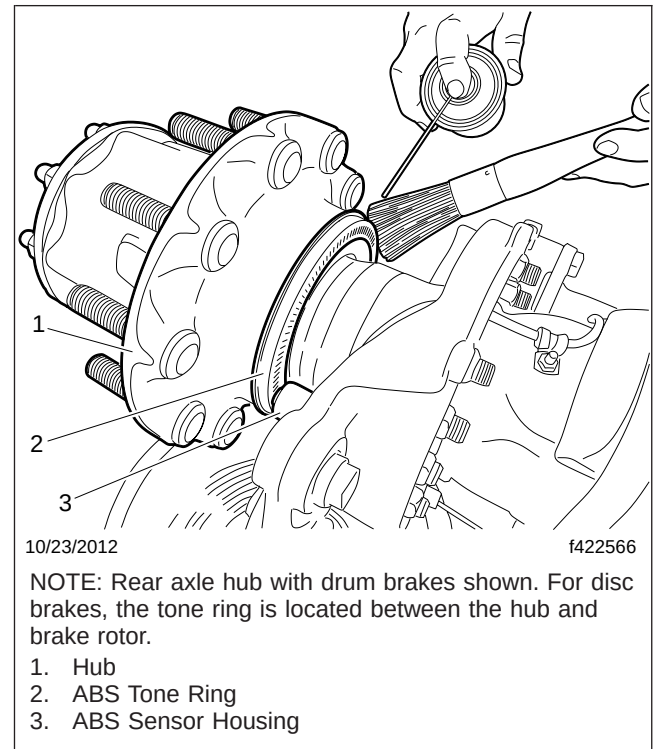

Fig. 1, Cleaning an ABS Tone Ring
5. Apply brake cleaner to the tone ring and remove any residue with a plastic-bristled brush. See **Fig. 1**.